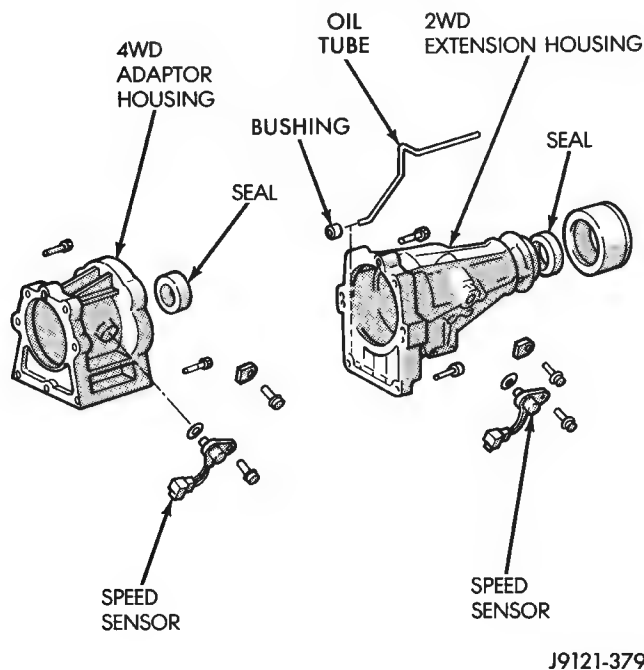

Fig. 36 Adapter Housing Seals
- (1) Raise vehicle.
- (2) Disconnect or remove components necessary to gain access to seal (e.g. propeller shaft, crossmember, shift linkage, transfer case, exhaust components, hoses, wires).
- (3) Remove dust shield and remove seal from adapter housing (Fig. 36).
- (4) Install new seal with appropriate size seal installer and install dust shield.
- (5) Reinstall components removed to gain access to seal.
- (6) Top off transmission fluid if necessary.